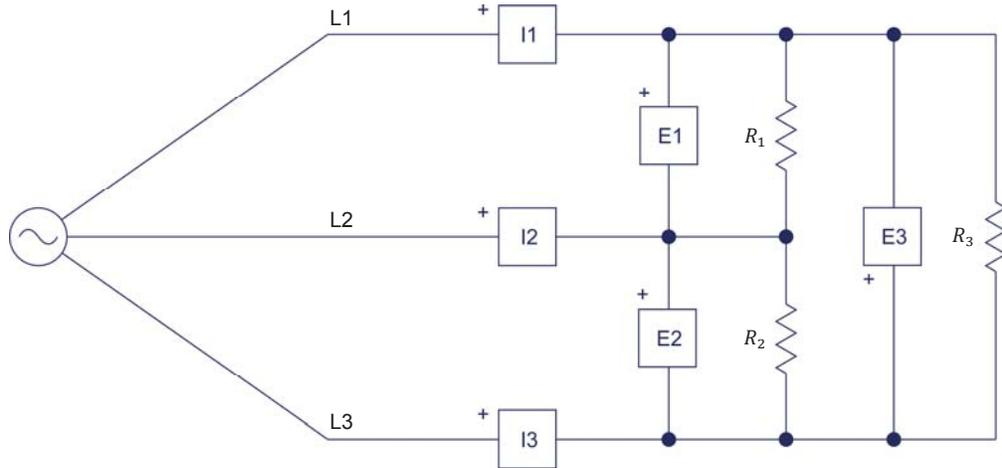

Figure 8. Line current measurements in the delta-connected, three-phase circuit.
31. Reconnect meter inputs  $I_1$ ,  $I_2$ , and  $I_3$  as shown in Figure 8 to measure the line currents in the delta-connected, three-phase circuit.
Measure and record below the line currents in the circuit of Figure 8, then turn the three-phase ac power source in the Power Supply off. Then, determine the average value of the line currents.